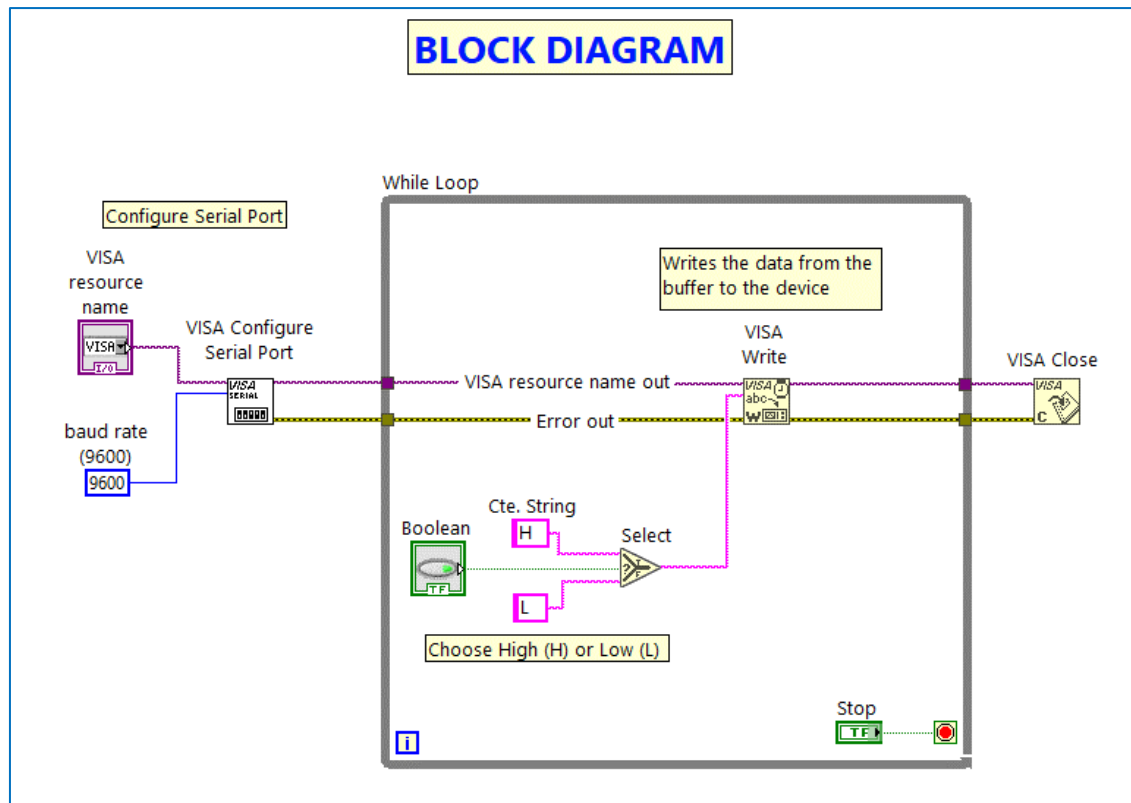

Figure 2. Block Diagram view
2.- On the Block Diagram: (Figure 2)